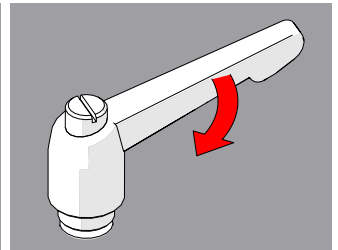

Fig. 63 - Tighten handle
3. Release the lever and utilize the new tightening position (*Fig. 63*).